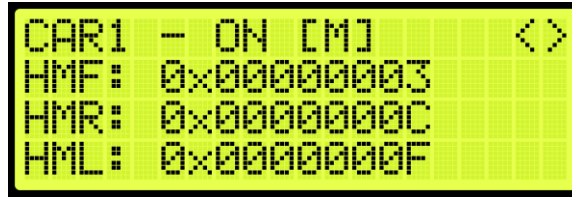

Figure 266: Hall Mask Status
3. From the Hall Mask Status (See Figure 266), press the right button.